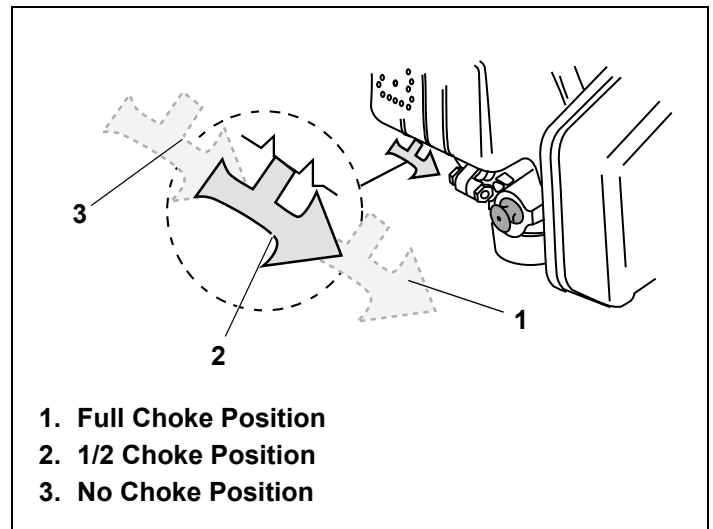

Figure 20. Engine Choke Positions
2. Move Engine Choke Lever to "FULL CHOKE" position. See Figure 20.
If restarting a warm engine after a short shutdown, move Choke Lever to "NO CHOKE" position. See Figure 20.